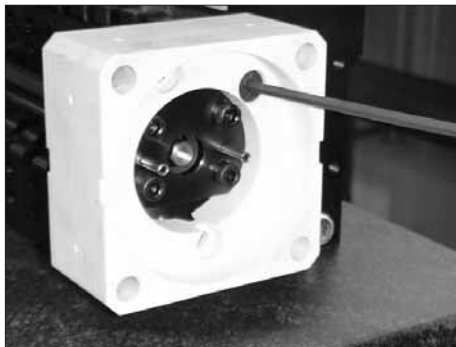

Figure 7-104 Installing the drive adapter
3. See Figure 7-104. Using an M4 hex wrench, install the drive adapter (three shoulder bolts).